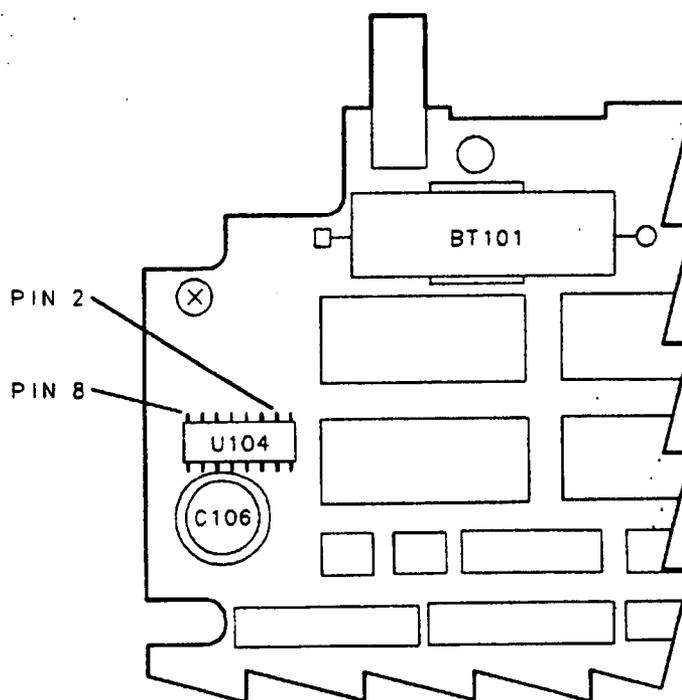

Figure 9-1. Location of U104 on the A16 Assembly
4. Locate U104 on the A16 assembly. Refer to Figure 9-1.